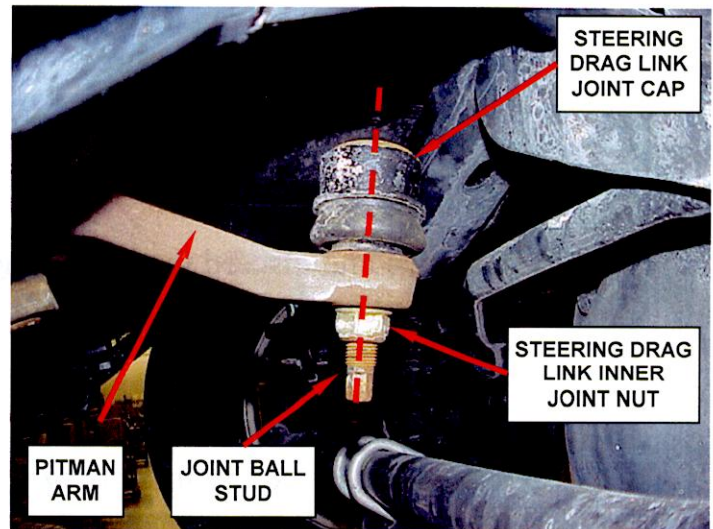

Figure 9 – Drag Link Joint Cap Alignment
- h. With the wheels in the straight ahead position, make sure that **both inner and outer steering drag link joint caps** are centered over the joint ball stud (Figure 9).